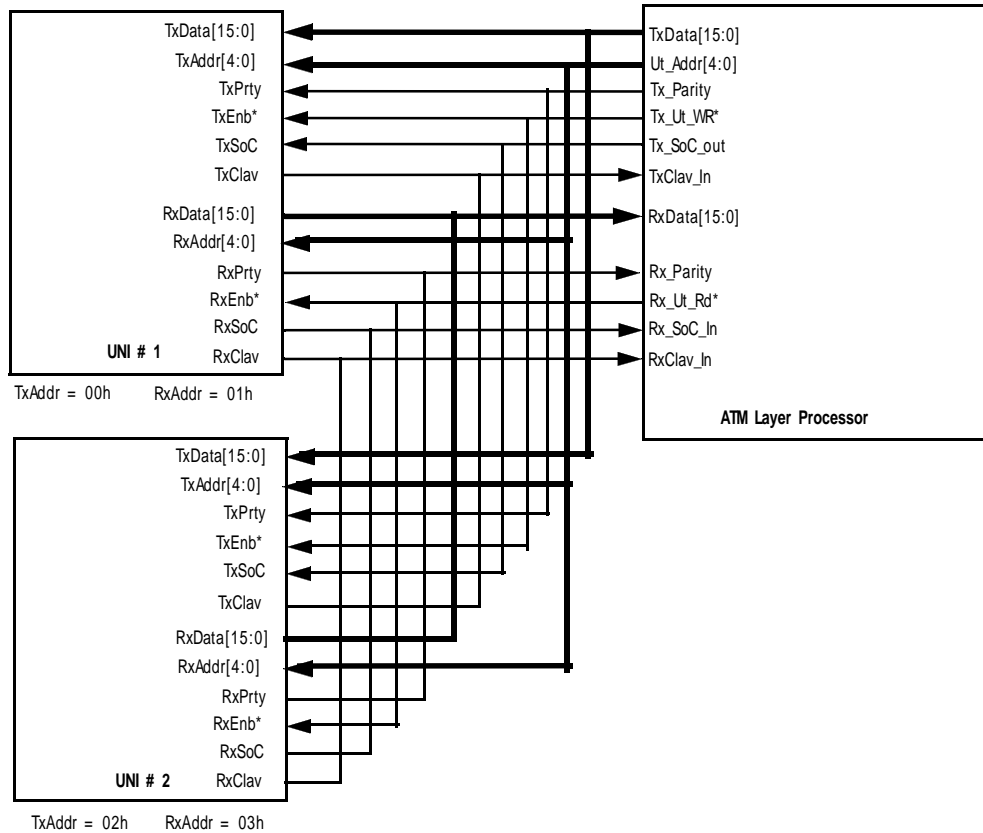

Figure 24. An Illustration of Multi- PHY Operation with UNI Devices #1 and #2
Figure 24 depicts a “Multi- PHY” system consisting of an ATM Layer processor and two (2) UNI devices, which are designated as “UNI #1” and “UNI #2”. In this figure, both of the UNs are connected to the ATM Layer processor via a common “Transmit Utopia” Data Bus, a common “Receive Utopia” Data Bus, a common “TxClav” line, a common “RxClav” line, as well as common TxEnB*, RxEnB*, TxSoC and RxSoC lines. The ATM Layer processor will also be addressing both the Transmit and Receive Utopia Interface blocks via a common “Utopia” address bus (Ut_Addr[4:0]) Therefore, the Transmit and Receive Utopia Interface Blocks, within a given UNI might have different addresses; as depicted in Figure 24.
The Utopia Address values, that have been assigned to each of the Transmit and Receive Utopia Interface blocks, within Figure 24, are listed below in Table 15.
Table 15. Utopia Address Values of the Utopia Interface blocks illustrated in Figure 24.
3. The ATM Layer processor will then check the value of its “TxClav_in” input pin (see Figure 24).
When UN #2 has been selected for “polling”, UN #1 will continue to keep its “TxClav” output signal “tri- stated”. Therefore, when UN #2 is driving its “TxClav” output pin to the appropriate level; it will be driving the entire “TxClav” line, within the “Multi- PHY” system. Consequently, UN#2 will also be driving the “TxClav_in” input pin of the ATM Layer processor (see Figure 24).
Note: Although Figure 24 depicts connections between the Receive Utopia Interface block pins and the ATM Layer processor; the Receive Utopia Interface block operation, in the Multi- PHY mode, will not be discussed in this section. Please see Section 7.2.2.2.2 for a discussion on the Receive Utopia Interface block during Multi- PHY operation.